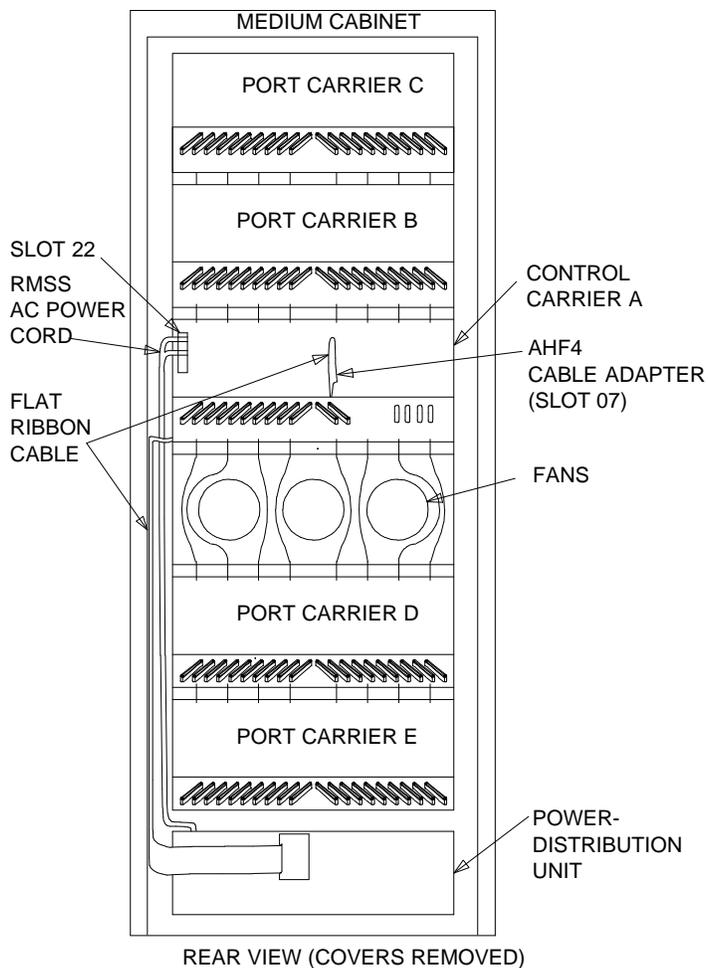

Figure 3-3. R1V3 System Cabinet
2. Disconnect the AHF4 cable adapter from behind slot "07" of control carrier "A" (see Figure 3-3).